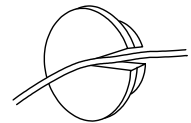

Fig. 4
7. Make a cut on the rubber cap and pass the capillary tube through it. (Fig. 4)